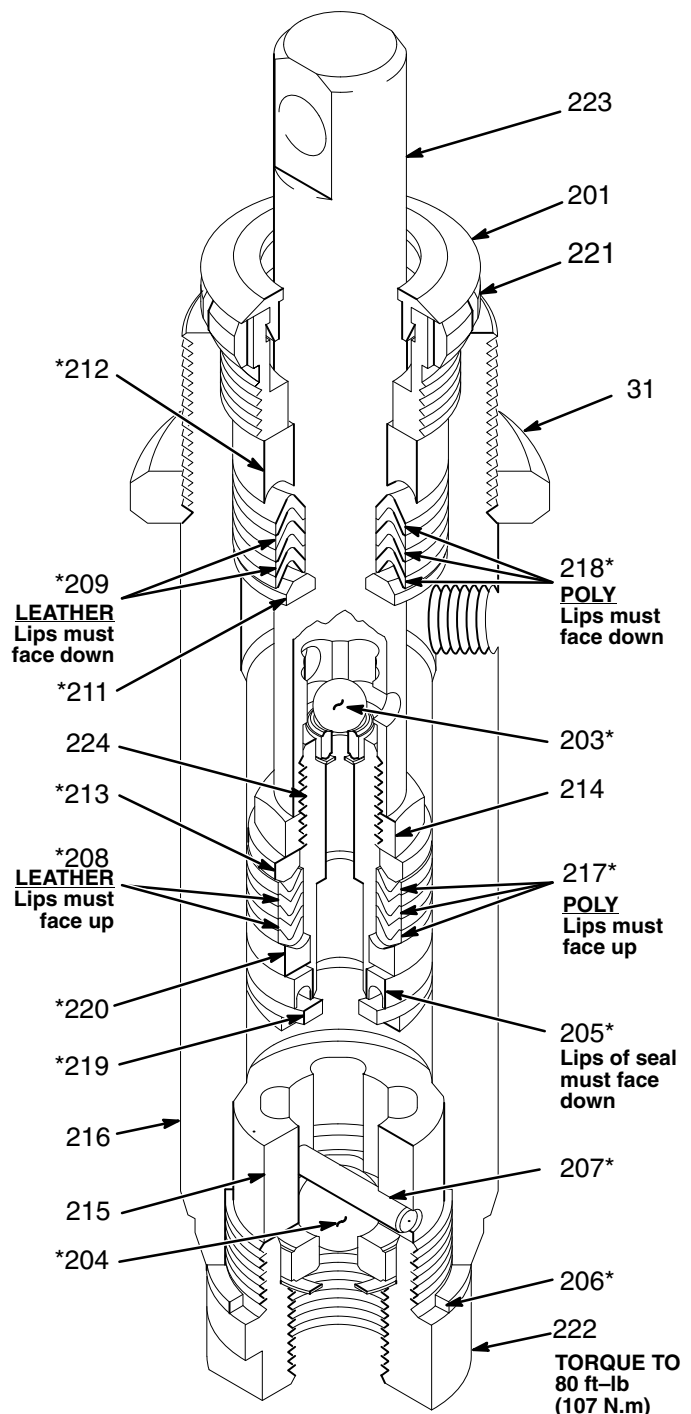

Fig 14
Disassembly. See Fig 14, except where noted.
- B. Clean all parts thoroughly. Check the outside of the piston rod (223) and the inside of the cylinder (216) for scoring or scratches, which prevent the packings from sealing properly. Replace all worn parts.
- C. Alternate polyethylene and leather packings as shown in Fig 14. Notice that:
1. Stack the backup washer (219*), U-cup seal (205*) *lips down*, and female gland (220*), alternate the polyethylene and leather v-packings (217*, 208*) *lips up*, and stack the male gland (213*) onto the piston valve (224). See Fig 14.
5. One at a time, stack these parts into the top of the cylinder (216): male gland (211*), alternately the polyethylene and leather v-packings (218*, 209*) *lips down*, female gland (212*). See Fig 14.
6. Loosely install the packing nut (221) and plug (201).
7. Insert the oiled piston rod (223) into the bottom of the cylinder.
8. Assemble the intake valve. Use a new gasket (206*). Screw the valve into the cylinder and tighten to 80 ft-lb (107 N.m). See Fig 14.
9. Screw down the cylinder locknut (31) until it is finger tight at the bottom of the external cylinder threads. See Fig 14.